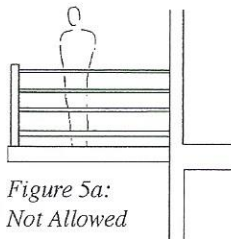

Figure 5a:
- All structures projecting over 16" from the connecting wall facade, whether cantilevered or direct bearing, shall be visibly supported by proportionately sized vertical, inclined and/or horizontal elements such as brackets, columns, beams (Figures 5a, 5b and 5c).
- Where exposed to the public street: balustrades at stair, landing and deck railings and guards shall be vertically configured (Figures 5a, 5b, and 5c); for landings and decks 30" or greater above adjoining grade(s), balustrades, railings and guards shall be required.